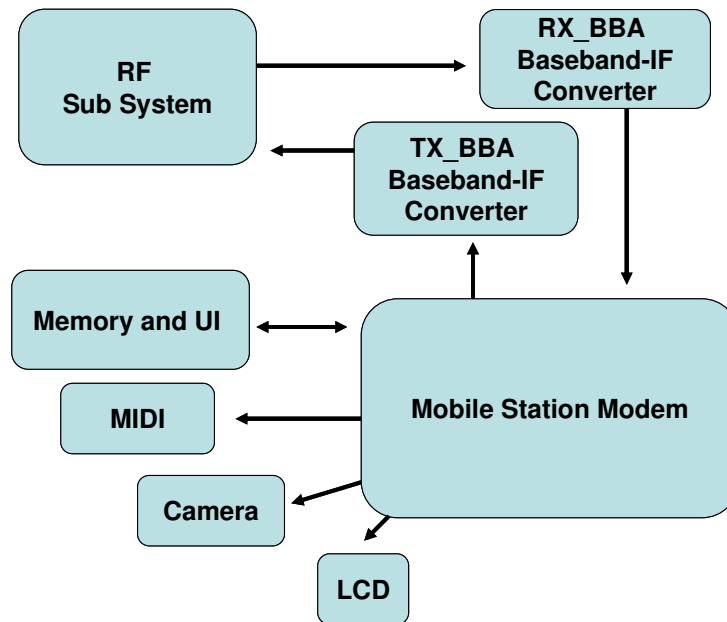

Figure 4.1 Typical Subscriber Unit Block Diagram
This product consists with 3 parts, which are RF, logic, and UI interface. The block diagram is shown in Figure 4.1. This product employs the Super-Heterodyne method for wireless communication and the Tx and Rx frequencies are 824.04~848.97MHz and 869.04~893.9MHz respectively. RF signals received through the antenna are fed into the low noise amplifier (Receiver MMIC/ LNA, U106) through the duplexer (F100). Then, they are combined with the signals of local oscillator (VCO, U102) at the down conversion mixer (Receiver MMIC, U106) in order to create the intermediate frequency (IF). The IF signal is fed into RX_BBA(U109) through band-pass filter (BPF, U108). In RX_BBA(U109), the IF signal is changed into base-band signal. Then, this signal is changed into the digital signal by the analog to digital converter (ADC, A/D Converter), and the digital circuit part of the MSM(U125) processes the data from ADC. In the case of transmission, The TX_BBA(U112) receives digital signal from the MSM(U125). In MSM(U125), the digital signal is changed into analog signal by the digital to analog converter (DAC, D/A Converter), and then the quadrature signals of base-band are up-converted to the IF frequency bands in TX_BBA(U112). The Tx AGC in TX_BBA(U112) is designed to be gain-controlled from 85dB dynamic range. In TX_BBA(U112), the Tx IF frequency mixed with RF local frequency is created Tx RF frequency. After that, the Power amplifier module(U110) amplifies the RF signal in order to have enough power for radiation. Finally, the RF signal is sent out to the cell site via the antenna after going through the duplexer (F110).